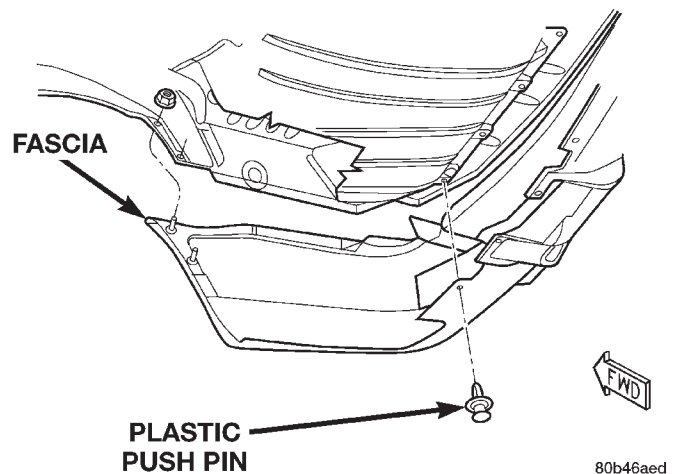

Fig. 4 Rear Fascia Attachment
- (1) Raise and support vehicle.
- (2) Remove tires.
- (3) Remove plastic push pins attaching fascia to fuel tank skid plate.
- (4) Remove plastic rivets attaching fascia to wheel liner.
(5) Remove nuts attaching upper edge of fascia to quarter panel and wheel liner (Fig. 4).